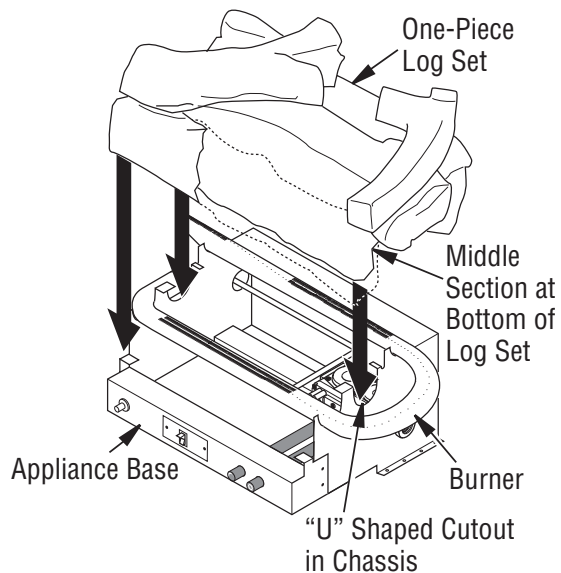
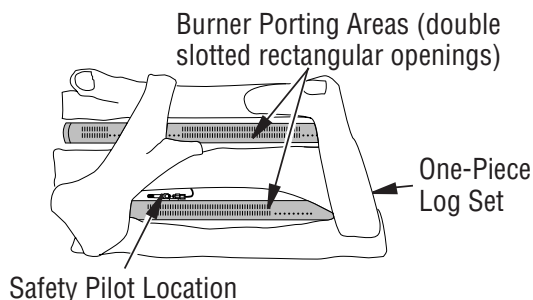

Figure 6 - Installing One-Piece Stove Log Set
Figure 7 - Top View of One-Piece Log Set on Gas Log Appliance
4. Set one-piece log on appliance base as shown in Figure 6. Make sure middle section at bottom of log is seated into "U" shaped cutout in center of appliance base. Log will fit securely on base. **IMPORTANT:** Make sure log does not cover any burner ports and does not touch the stove cavity (see Figure 7).
- With control knob pressed in, press and release Igniter button. This will light pilot. The pilot is attached to the front burner (see Figure 7, page 8). If needed, keep pressing Igniter button until pilot lights.